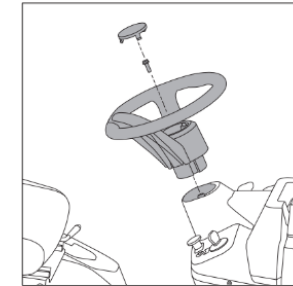

Fig. 5
2. Align the steering wheel with the splines on the upper steering shaft and install (Fig. 5)
3. Insert bolt into the center of the steering wheel and tighten (Fig. 5)
4. Click the steering wheel center cover into place (Fig. 5)